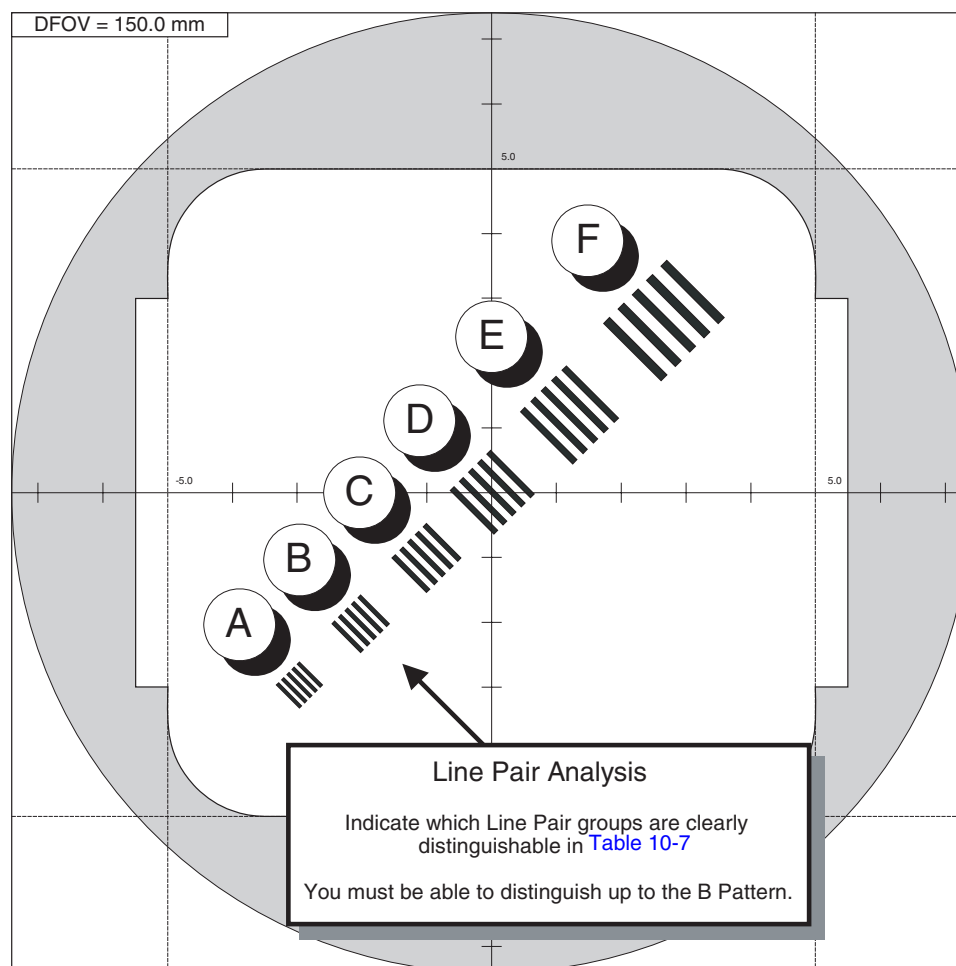

Figure 10-9 20cm QA#1 Phantom High Contrast Spatial Resolution (Visible Line Verification)
- d.) While viewing each image, indicate in Table 10-7 all the Line Pair Pattern groups that can be visually distinguished (see Figure 10-9).